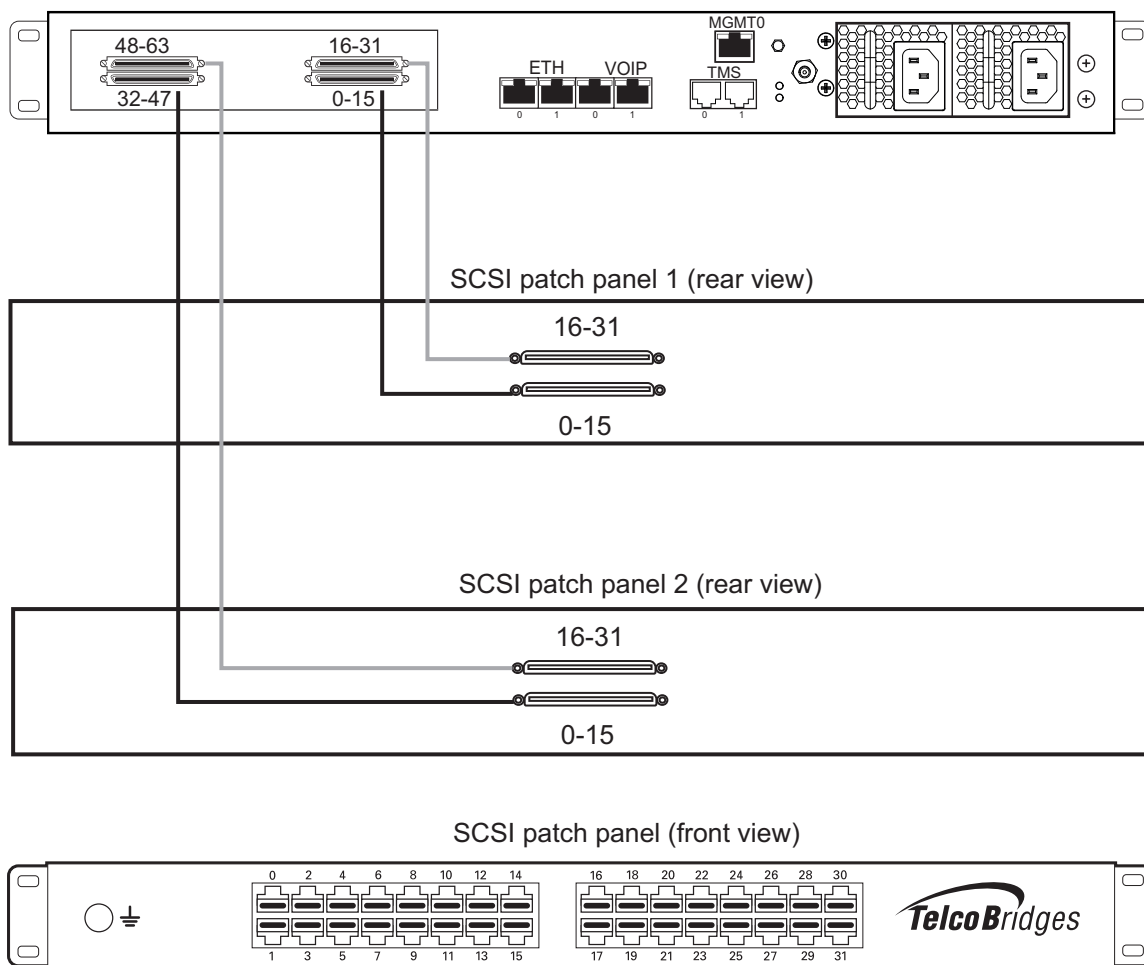

Figure 2.4 3200-TE with SCSI connectors
1. Start with SCSI ports 0-15 located at the bottom right as shown in figure 2.4 on page 19. Connect one SCSI cable between this port and SCSI patch panel number 1, ports 0-15. Connect SCSI ports 16-31 to patch panel number 1, ports 16-31.